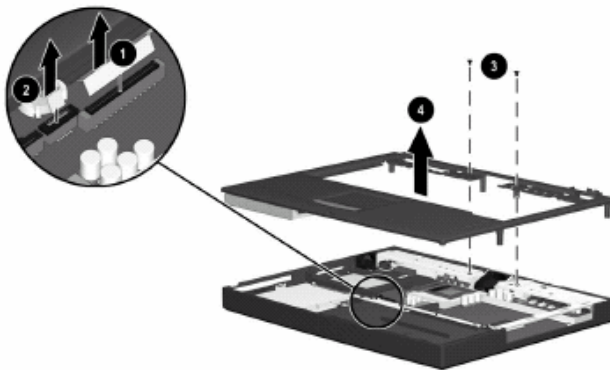

Figure 5-16: Removing the Top Cover
5. Disconnect the diskette drive cable from the low insertion force (LIF) connector on the system board 1 (Figure 5-16).